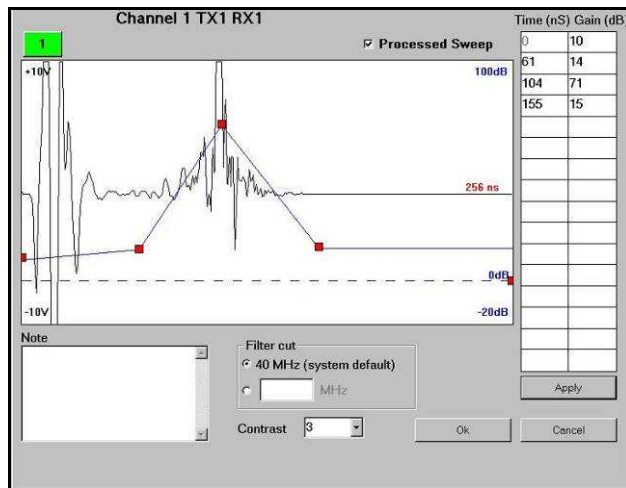
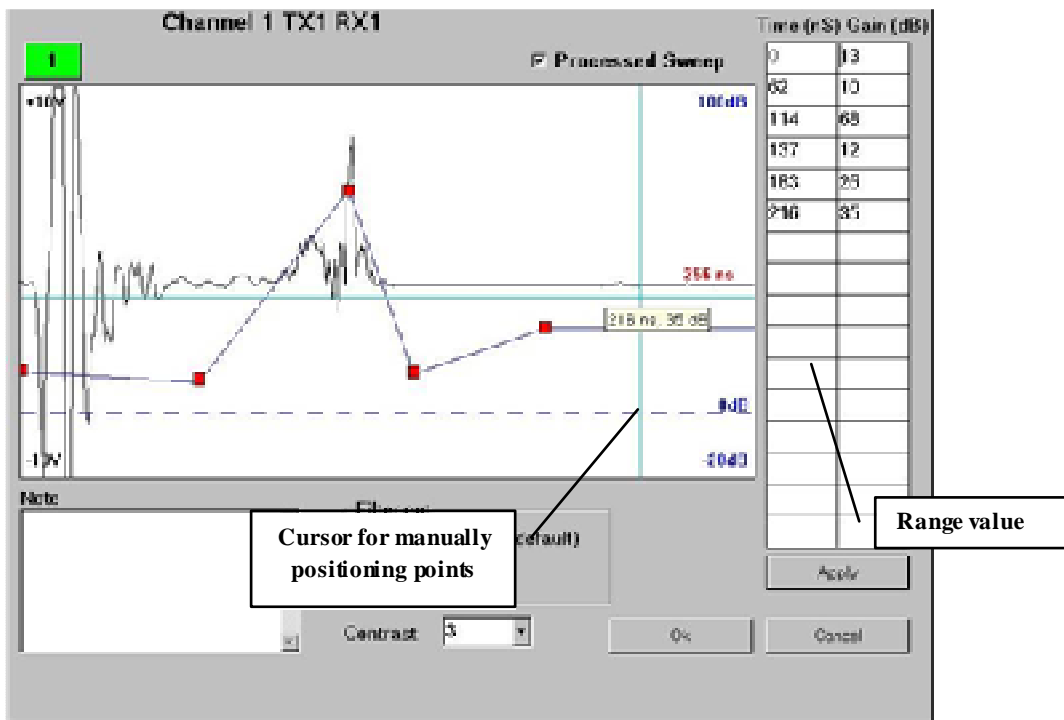

Fig. 4-12 – Graphical construction of the gain curve
Fig. 4-13 – Manual construction of the gain curve
- point with the mouse on the red square on the right edge of the window, corresponding to the value 0dB (Fig. 4-12 and Fig. 4-13)